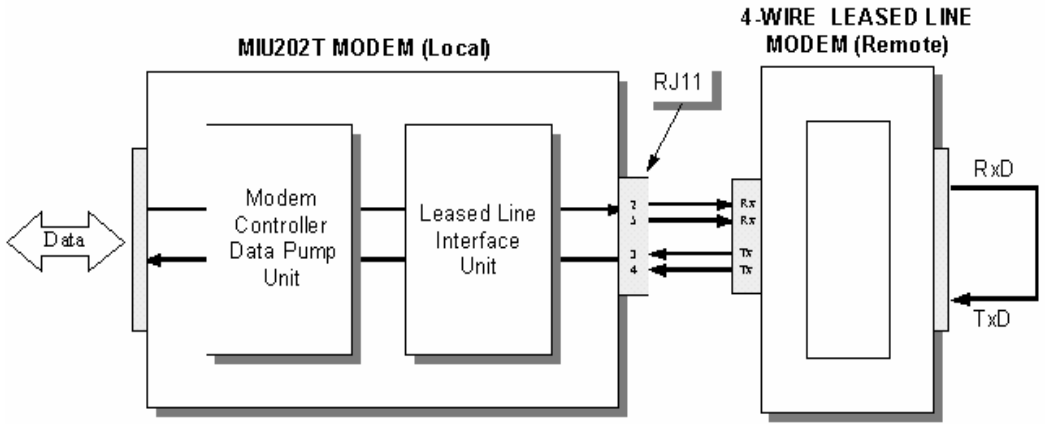

Figure 5 REMOTE DIGITAL LOOPBACK
**(c) REMOTE DIGITAL LOOPBACK – 4/Wire Network (Figure 5)**